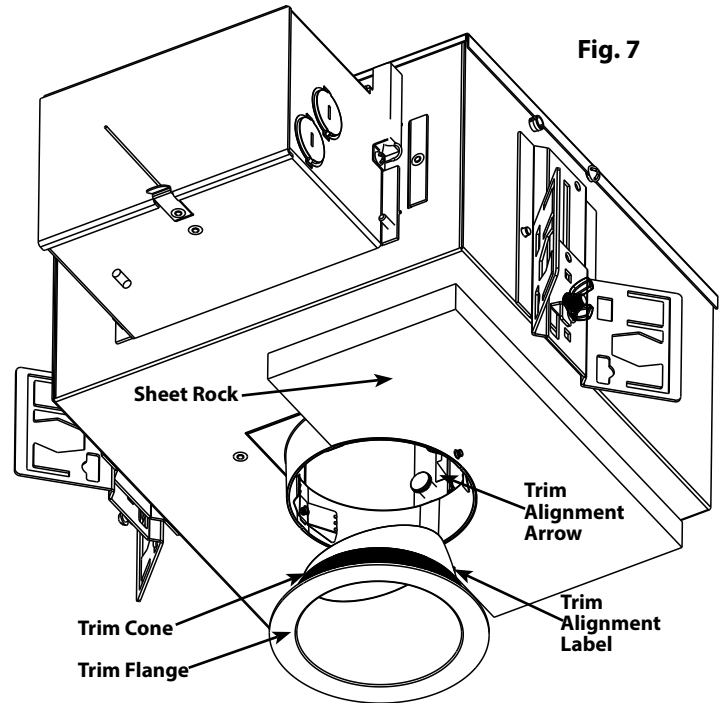

Fig. 7
*For Wallwasher and Adjustable Trims Only. (Fig. 7)*